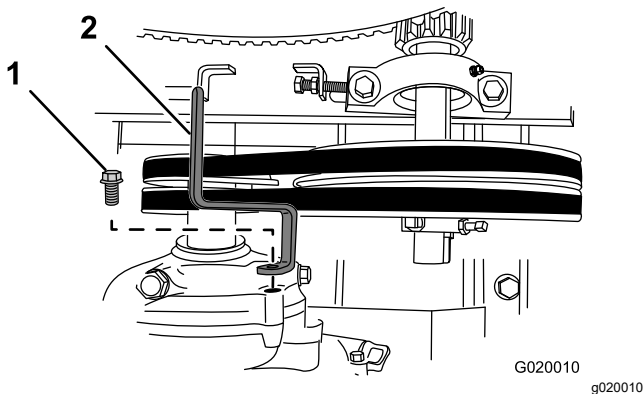

Figure 64
6. Remove the bolt that secures the belt guide to the engine, and remove the belt guide (Figure 64).
10. Loosely secure the belt guide to the engine (Figure 64) with the bolt that was removed in step 6 of Replacing the Belts \(page 41\).